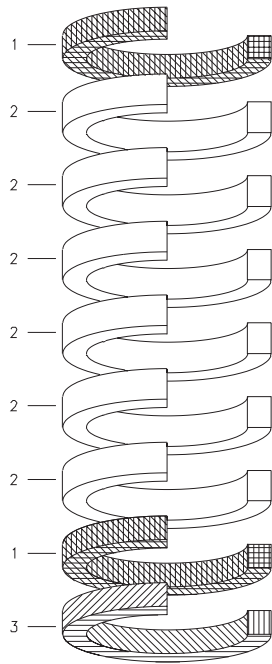

FIGURE NO. 3
Please refer to Figure no.3 and 4. To replace the packing proceed as follows:
6. The repacking shall be carried out by placing one ring at a time around the stem, inside the stuffing box and by making sure that they are correctly oriented. Press it into the bottom [refer to Figure no. 3].